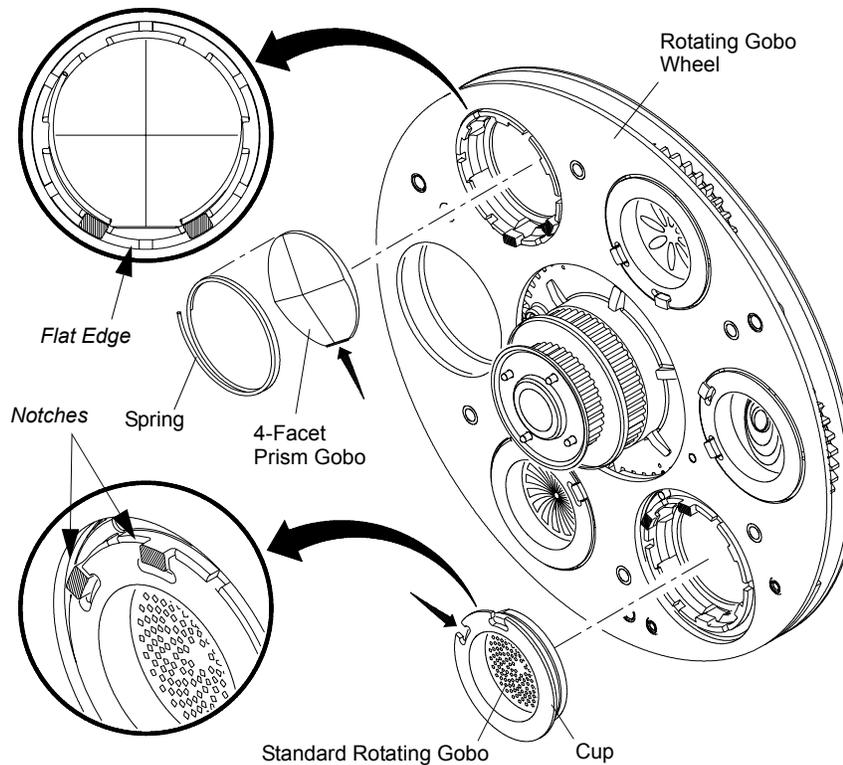

Figure 4-5: Replacing a Rotating Gobo
- Step 4. Remove gobo from wheel by pulling outward (**Figure 4-5**). Note that the 4-Facet Prism gobo has a spring, while the other gobos do not.